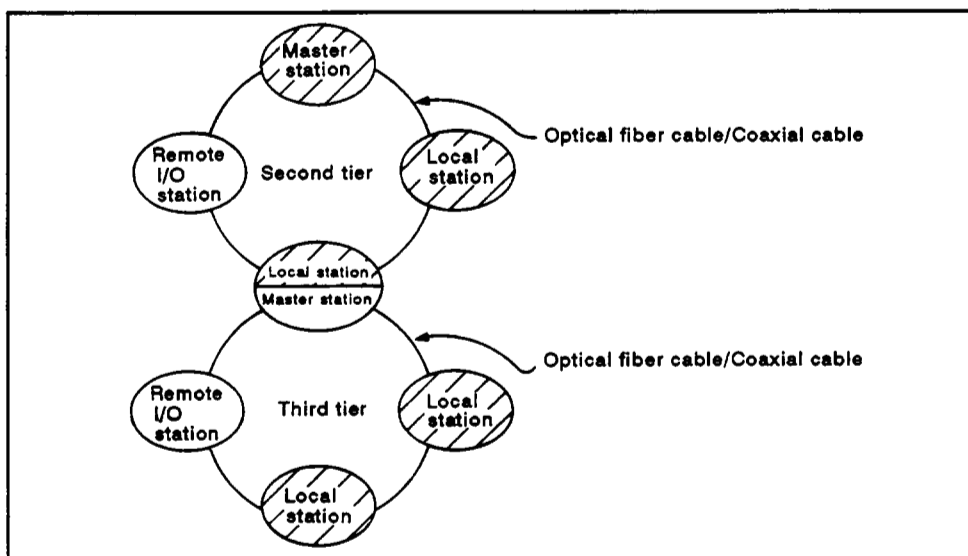

Fig. 2.4 Data Link System
- (1) The A73CPUP21/R21 for the MELSECNET data link can be used for the master and local stations (see the hatched circles in Fig. 2.4).